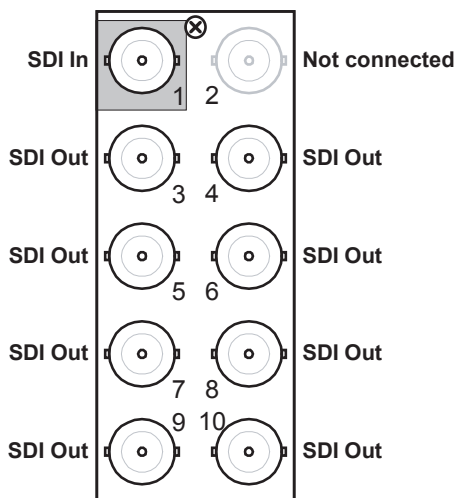

Figure 2.2 Cable Connections for the 8310AR-030 and 8320AR-030 Full Rear Modules
- **8310AR-030** Rear Module (R1-8201A) — Each card occupies one slot and provides an SDI input and eight SDI outputs. (**Figure 2.2**)
- **8320AR-030** Full Rear Module (R2-8201A) — Each card occupies two slots and provides an SDI input and eight SDI outputs. Ensure that the SRA-8201A card is installed in an even slot number. (**Figure 2.2**)
- **8310AR-030** Rear Module (R1-8601A) — Each card occupies one slot and provides an SDI input and eight SDI outputs. (**Figure 2.2**)
- **8320AR-030** Full Rear Module (R2-8601A) — Each card occupies two slots and provides an SDI input, and eight SDI outputs. Ensure that the SRA-8601A card is installed in an even slot number. (**Figure 2.2**)